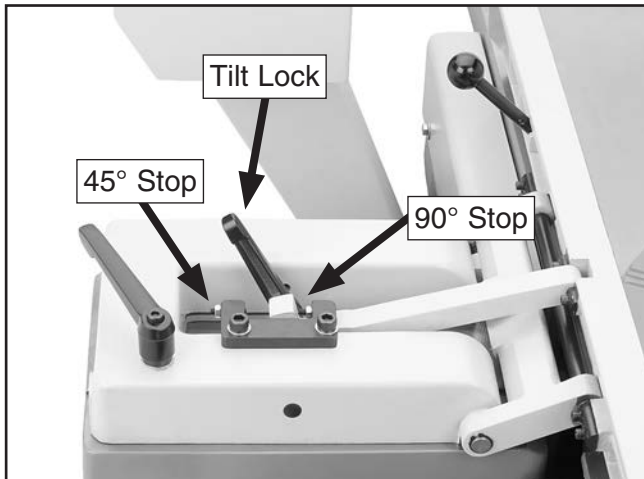

Figure 64. Fence stop controls.
2. Loosen the fence tilt lock and the jam nut on the 90° stop, then back off the set screw (see **Figure 64**).
2. Loosen the fence tilt lock and the jam nut on the 45° stop, then back off the set screw (see **Figure 64** on the previous page).